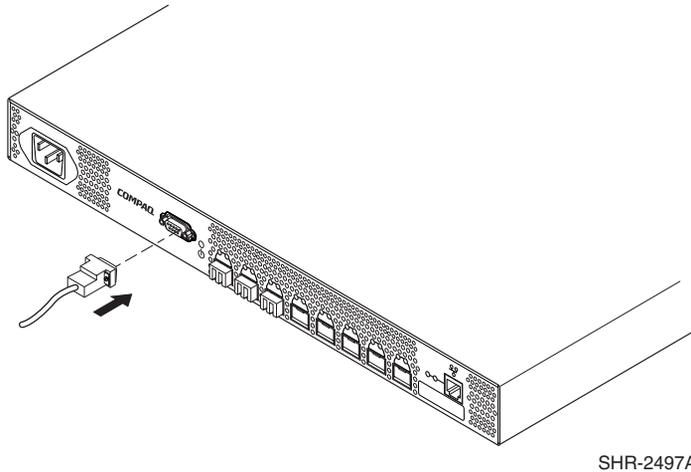

Figure 2–6: Connecting the Serial cable
2. Connect the Serial cable to the SAN Switch 2/8 EL Serial port, see Figure 2–6.